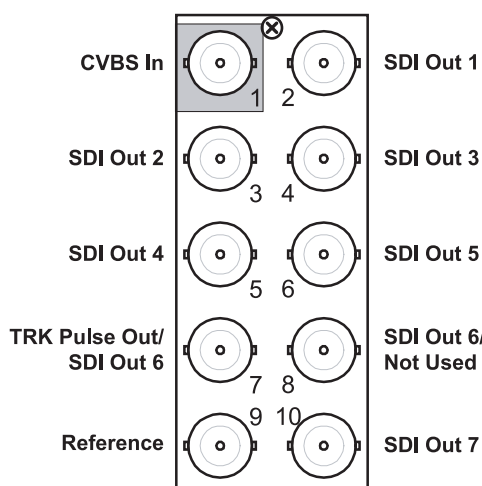

Figure 2.2 Cable Connections for the **R1-8732** and **R2-8732** Rear Modules
- **R1-8732** Rear Module — Each card occupies one slot and provides seven SD-SDI outputs, one tracking pulse output, and a reference input. Cable your ADC-8732B according to **Figure 2.2**.
- **R2-8732** Full Rear Module — Each card occupies two slots and provides seven SD-SDI outputs, one tracking pulse output, and a reference input. Cable your ADC-8732B according to **Figure 2.2**.